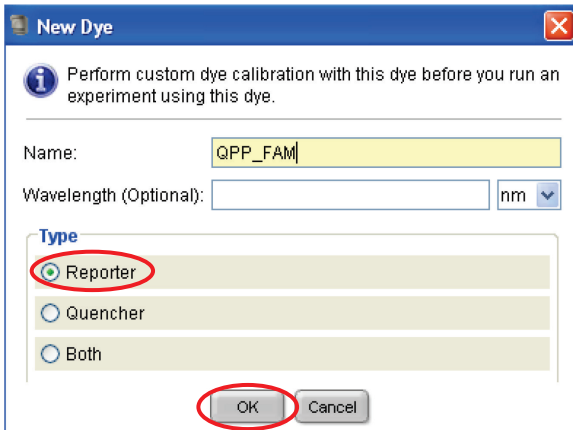

Figure 6. Dye naming.
16. Set names for the new custom dyes. To differentiate the new dyes from standard dyes, we recommend using the prefix QPP (for Quantiplex Pro). Enter **QPP_FAM** as a new dye name, select **Reporter** and click **OK** (Figure 6).